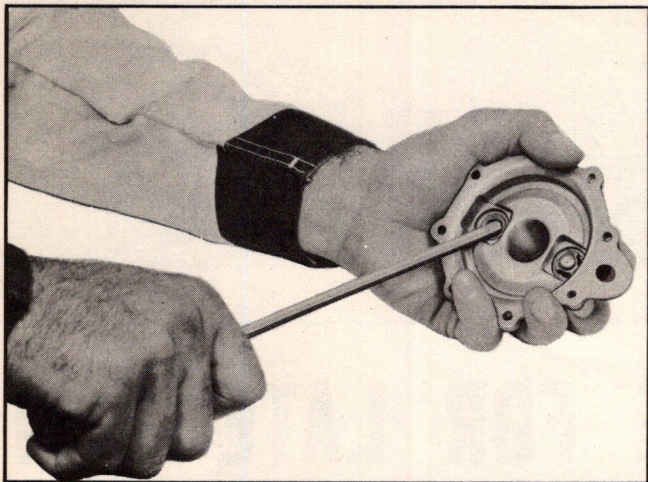

Fig. 2 Removing Valve and Cage Assemblies
9. If vacuum valves are to be replaced, remove valve and cage assemblies from vacuum cover and body by prying out with screw driver as shown in Fig. 2.